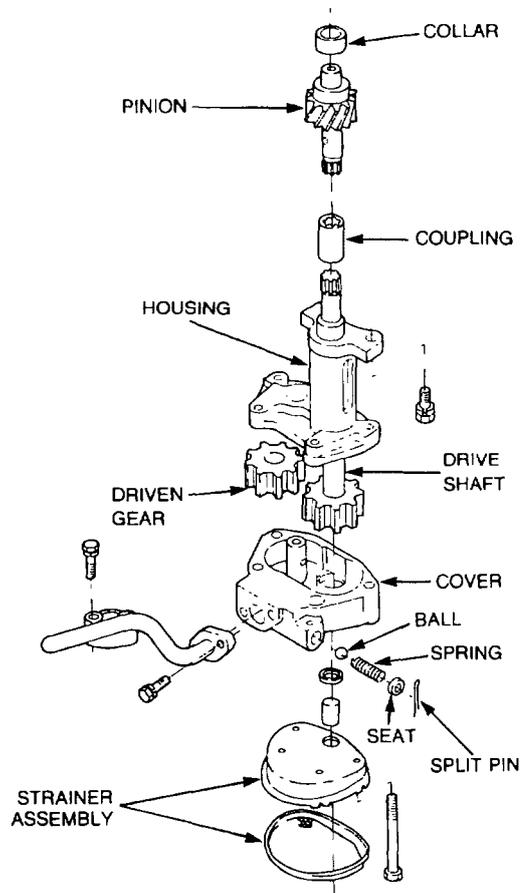

Figure 5 Oil Pump – Exploded View
29. The oil pump, located inside the oil pan, is a gear type, i.e. a pair of meshing gears inside a closed housing, and is mounted on the engine block. One gear is attached to the pump drive shaft, which is driven by a gear on the camshaft, while the second gear is driven by the first (refer to Figure 5). The oil pump is a self-priming type, i.e. when the pump gears are rotating, a low-pressure area is created in the pump housing causing atmospheric pressure to force oil through the oil strainer and inlet tube into the pump housing. The meshing of the pump gears displaces the oil and forces the oil from the pump. A pressure-relief valve in the pump housing limits the maximum pump outlet pressure to 686 kPa (100 psi). Surplus pump output is bypassed to the oil pan.